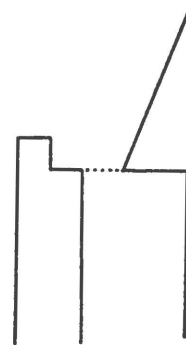

Fig. 10.
2. Ask somebody who owns a saw bench to saw a corner in the front of about 4 mm width and about 4 mm deep (figure 10). Take care that the